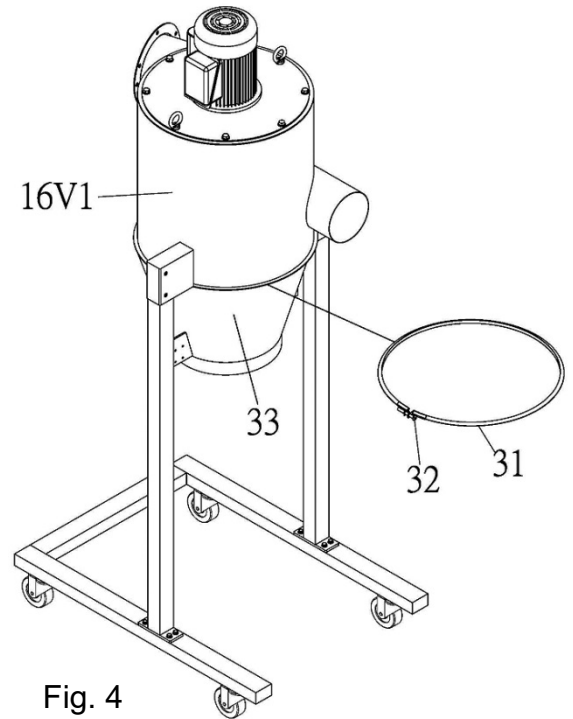

Fig. 4
5. Place the main housing (NO.16V1) and reducing housing (NO.33) and secure with clamp (NO.31) and hex screw (NO.32). See (FIG.4)